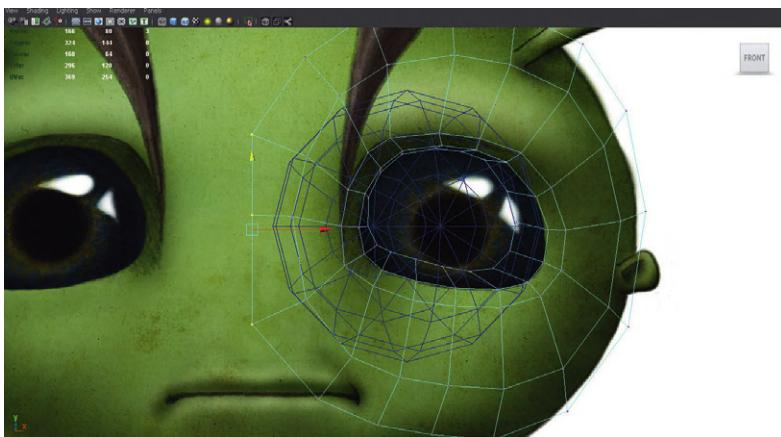

FIG 4.19 Snapping vertices to the center of the face with the Move Tool and Retain Component Spacing off.
Step 33: Tweak as needed but snap the inner edges to the middle of the face. In the front view, take a look, and by this point, there will be geometry that passes over the middle of the face. Switch to Vertex Mode and select vertices that have crossed over the middle of the face. Double-click the Move Tool, and in the Tool Settings window that will appear, look for the Move Snap Settings section. Turn off Retain Component Spacing. Now, in the front View Panel, hold x down (snapping to grid) and move the vertices in X. Snap them to the middle of the face (Fig. 4.19).